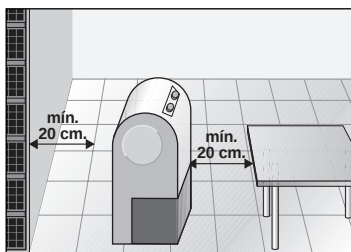

Fig. 4
- ❑ To ensure correct appliance operation, maintain minimum distances of 20 cm to adjacent objects. see **fig 4**.